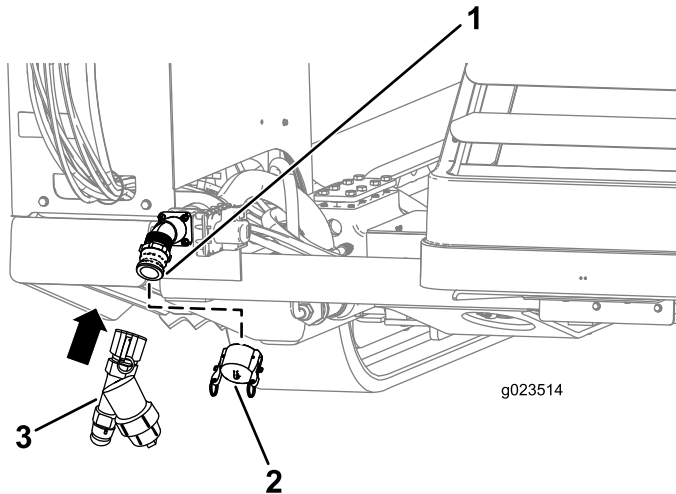

Figure 77
1. Remove the pump-inlet cap (Figure 77).
2. Align the Y-screen with the threads on the pump (Figure 77).